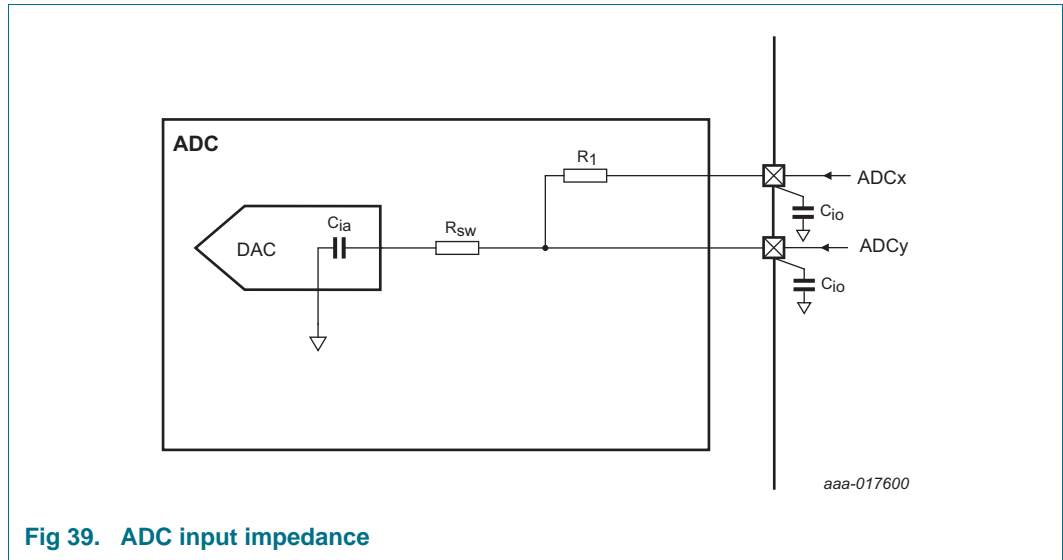

Fig 39. ADC input impedance
- [10] Input impedance Z_i is inversely proportional to the sampling frequency and the total input capacity including C_{ia} and C_{io} : $Z_i \propto 1 / (f_s \times C_i)$. See Table 20 for C_{io} . See Figure 39.
Figure 39 shows the ADC input impedance. In this figure: